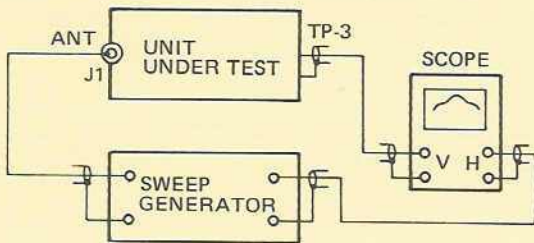

FIGURE 11. VHF HIGH BAND RF TEST EQPT. HOOK UP
Step 1: Connect instruments as shown in Figure 11.